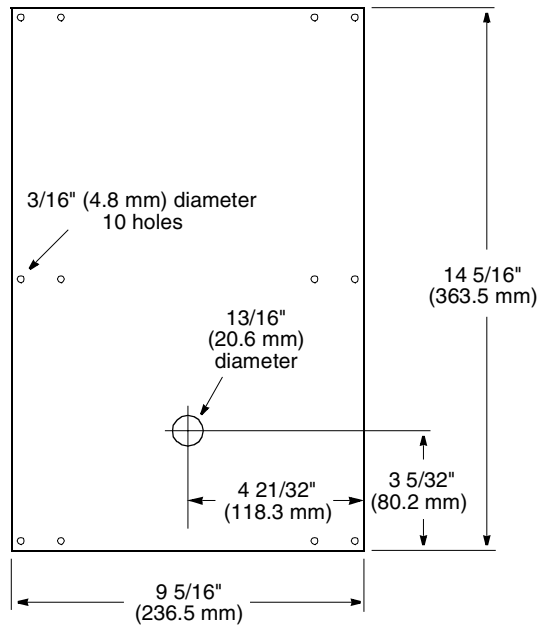

Figure-3 Dimensions of Base Mounting Plate AM-675.
- b. Mark the mounting hole locations on the base mounting plate (See Figure-3). Drill the mounting holes at the marked locations.
- b. If the base mounting plate is not used, position the weather shield on the mounting surface. Transfer the mounting hole locations from the weather shield to the mounting surface (See Figure-3). Drill the holes at the transferred locations in the mounting surface.
See Figure-3 for dimensional data for Base Mounting Plate AM-675.